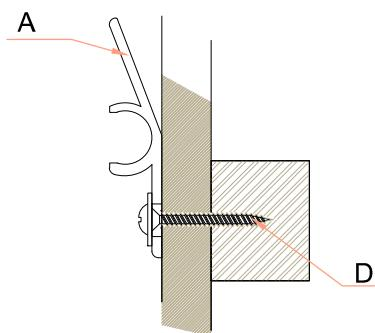

FIGURE 1C
- DRYWALL WITHOUT STUDS: Use hollow wall anchors to affix to drywall. See FIGURE 1C.